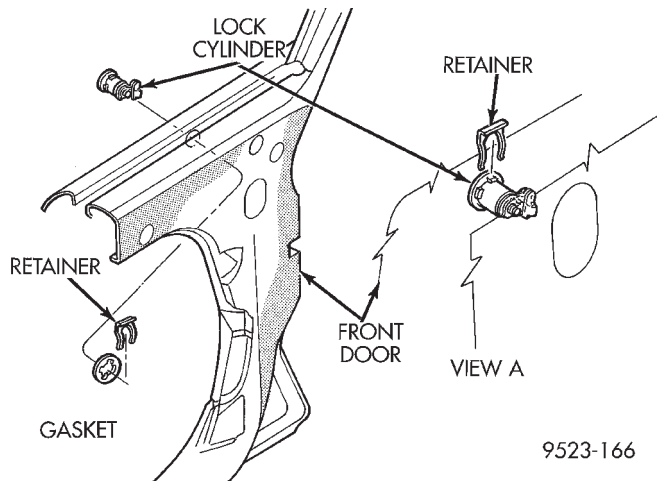

Fig. 32 Front Door Lock Cylinder
- (1) Remove front door outside handle.
- (2) Disengage clip holding lock linkage to back of lock cylinder.
- (3) Separate linkage from lock cylinder.
- (4) Remove retainer holding lock cylinder to outer door panel (Fig. 32).
- (5) Separate lock cylinder from vehicle.